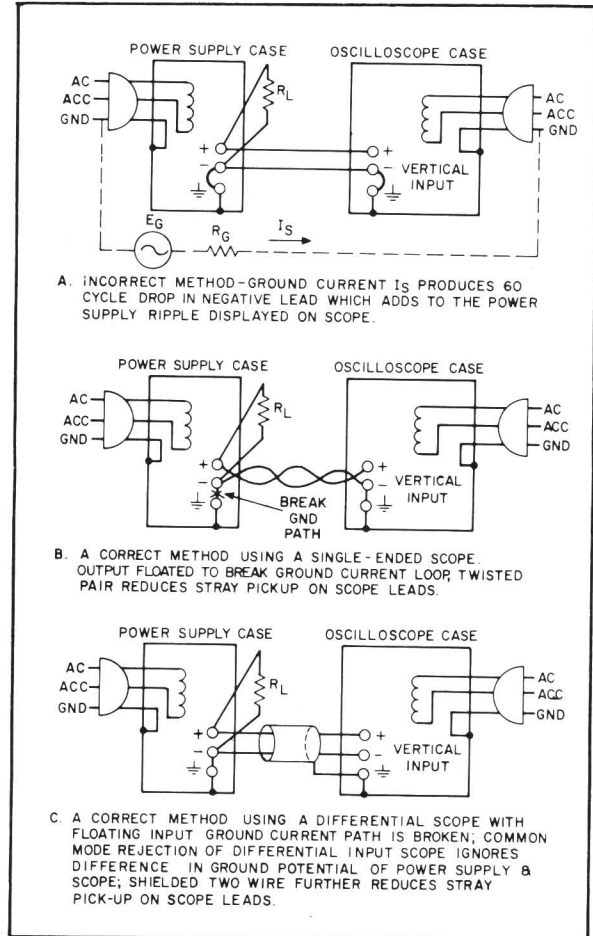

Figure 5-3. Ripple and Noise, Test Setup
- Connect test setup as shown in Figure 5-3.
5-22 Ripple and Noise Measurement. Figure 5-3 shows an incorrect method of measuring p-p ripple. Note that a continuous ground loop exists from the third wire of the input power cord of the supply to the third wire of the input power cord of the oscilloscope via the grounded power supply case, the wire between the negative output terminal of the power supply and the vertical input of the scope, and the grounded scope case. Any ground current circulating in this loop as a result of the difference in potential E_G between the two ground points causes an IR drop which is in series with the scope input. This IR drop, normally having a 60 Hz line frequency fundamental, plus any pickup on the unshielded leads interconnecting the power supply and scope, appears on the face of the CRT. The magnitude of this resulting noise signal can easily be much greater than the true ripple developed between the plus and minus output terminals of the power supply, and can completely invalidate the measurement.
5-23 The same ground current and pickup problems can exist if an RMS voltmeter is substituted in place of the oscilloscope in Figure 5-3. However, the oscilloscope display, unlike the true RMS meter reading, tells the observer immediately whether the fundamental period of the signal displayed is 8.3 milliseconds (1/120 Hz) or 16, 7 milliseconds (1/60 Hz). Since the fundamental ripple frequency present on the output of an HP supply is 120 Hz (due to full-wave rectification), an oscilloscope display showing a 120 Hz fundamental component is indicative of a "clean" measurement setup, while the presence of a 60 Hz fundamental usually means that an improved setup will result in a more accurate (and lower) value of measure ripple.
5-24 Figure 5-3 shows a correct method of measuring the output ripple of a constant voltage power supply using a single-ended scope. The ground loop path is broken by floating the power supply. Note that to ensure that no potential difference exists between the supply and the oscilloscope it is recommended that whenever possible they both be plugged into the same ac power buss. If the grounds must be at earth ground potential.
5-27 In most cases, the single-ended scope method of Figure 5-3 will be adequate to eliminate non-real components of ripple and noise so that a satisfactory measurement may be obtained. However, in more stubborn cases it may be necessary to use a differential scope with floating input as shown in Figure 5-3C. If desired, two single conductor shielded cables may be substituted in